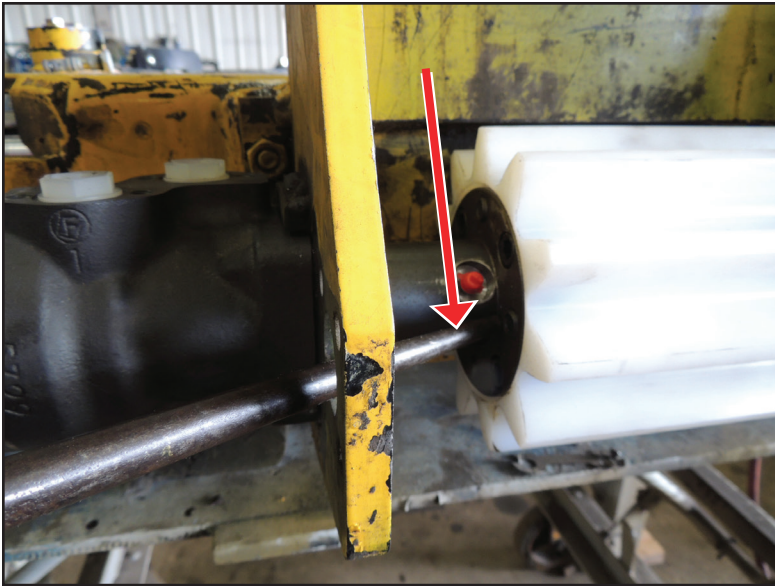

Figure 17
18. Center the grabber gear by placing a rolling head (centering) pry bar through the open hole next to the motor/ grabber gear on the grabber assembly contacting the metal part of the grabber gear (Figure 17) — **Not Against the Plastic Grabber Gear!** Strike the pry bar with the rubber mallet to center the grabber gear. Striking and aligning the motors may force the grabber gear into misalignment. Striking the grabber gear will realign it to the center.